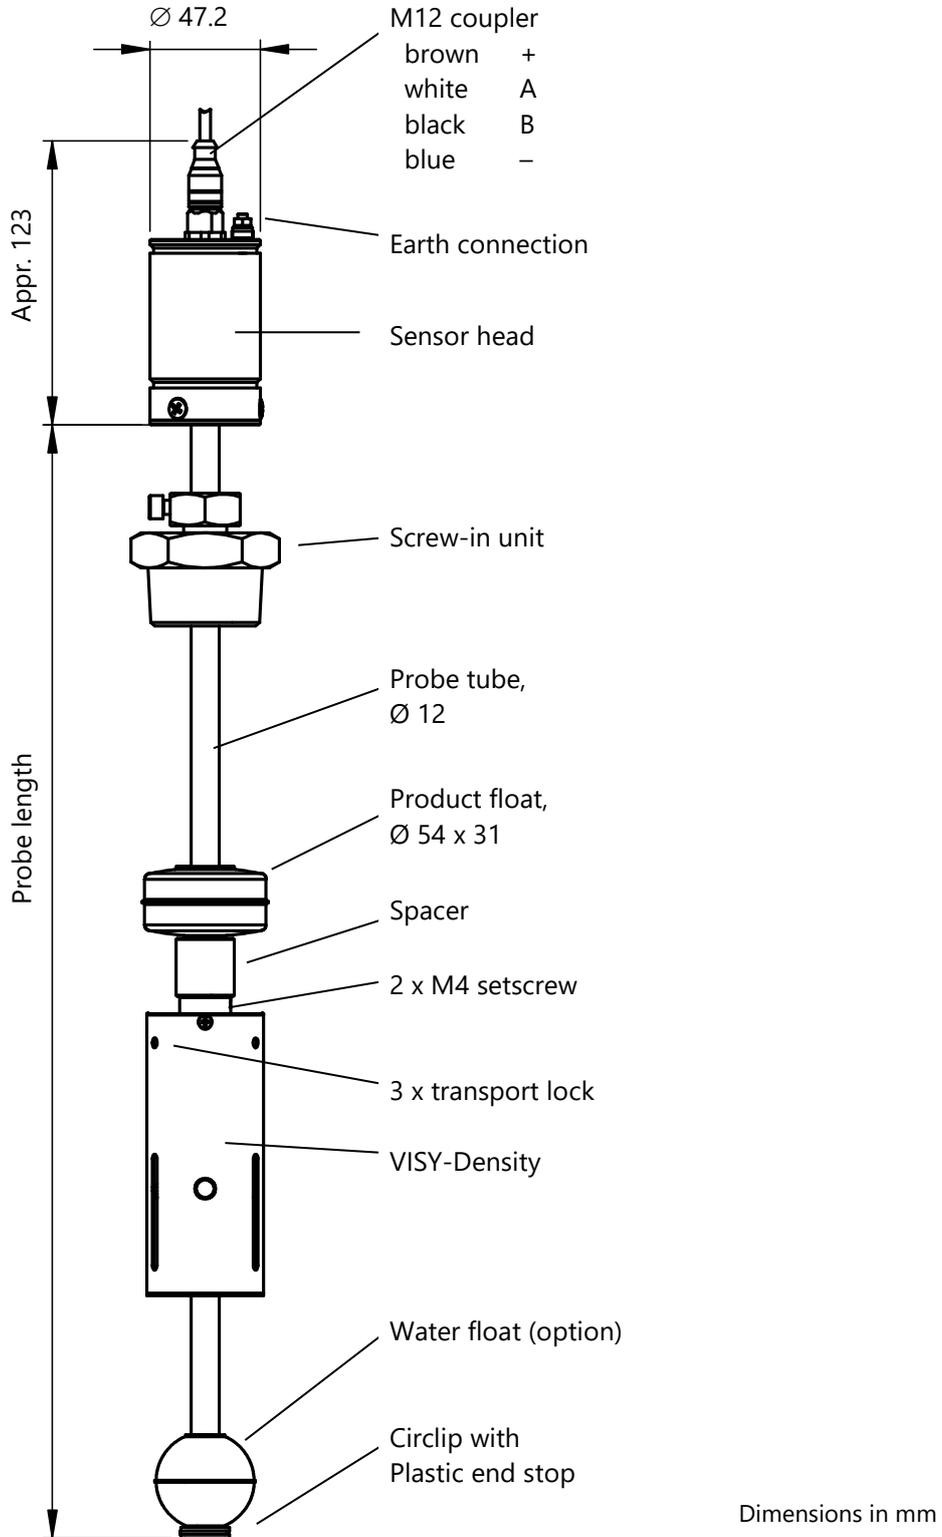

Figure 4: VISY-Stick Advanced with water float and VISY-Density module
- 3rd If available, slide the standard water float without distance collar (to be ordered separately) onto the probe tube with the TOP marking pointing towards the probe head (see Figure 4)